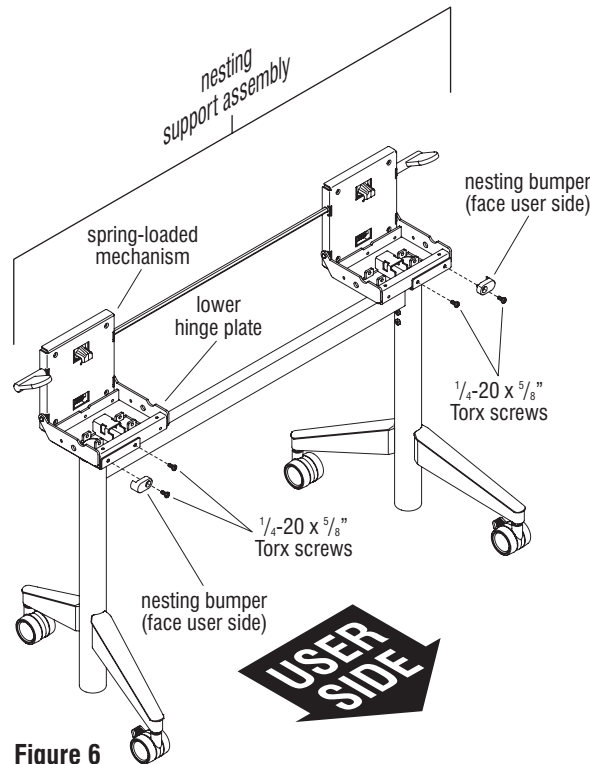

Figure 6
15. At one leg/side of the leg attachment bracket at a time, align the two mounting holes of the leg attachment bracket with the associated mounting holes of the lower hinge plate (Detail G). As illustrated, at the inward-most mounting hole, secure the mechanism to the attachment bracket using one  $\frac{1}{4}$ -20 x  $\frac{5}{8}$ " Torx screw. Repeat the above step at the opposite leg, at the other side of the nesting mechanism assembly (Figure 6 & Detail G).
16. Next, locate the two nesting bumpers to be installed to each outermost mounting hole, one bumper at each leg/side of the spring-loaded mechanism (Detail H). At one side first, align a nesting bumper over the outermost mounting hole in the leg attachment bracket as illustrated and insert and tighten a  $\frac{1}{4}$ -20 x  $\frac{5}{8}$ " Torx screw through the nesting bumper, through the leg attachment bracket and tighten into the lower hinge plate. Repeat the above step at the opposite leg, at the other side of the nesting support assembly (Figure 6 & Detail H).